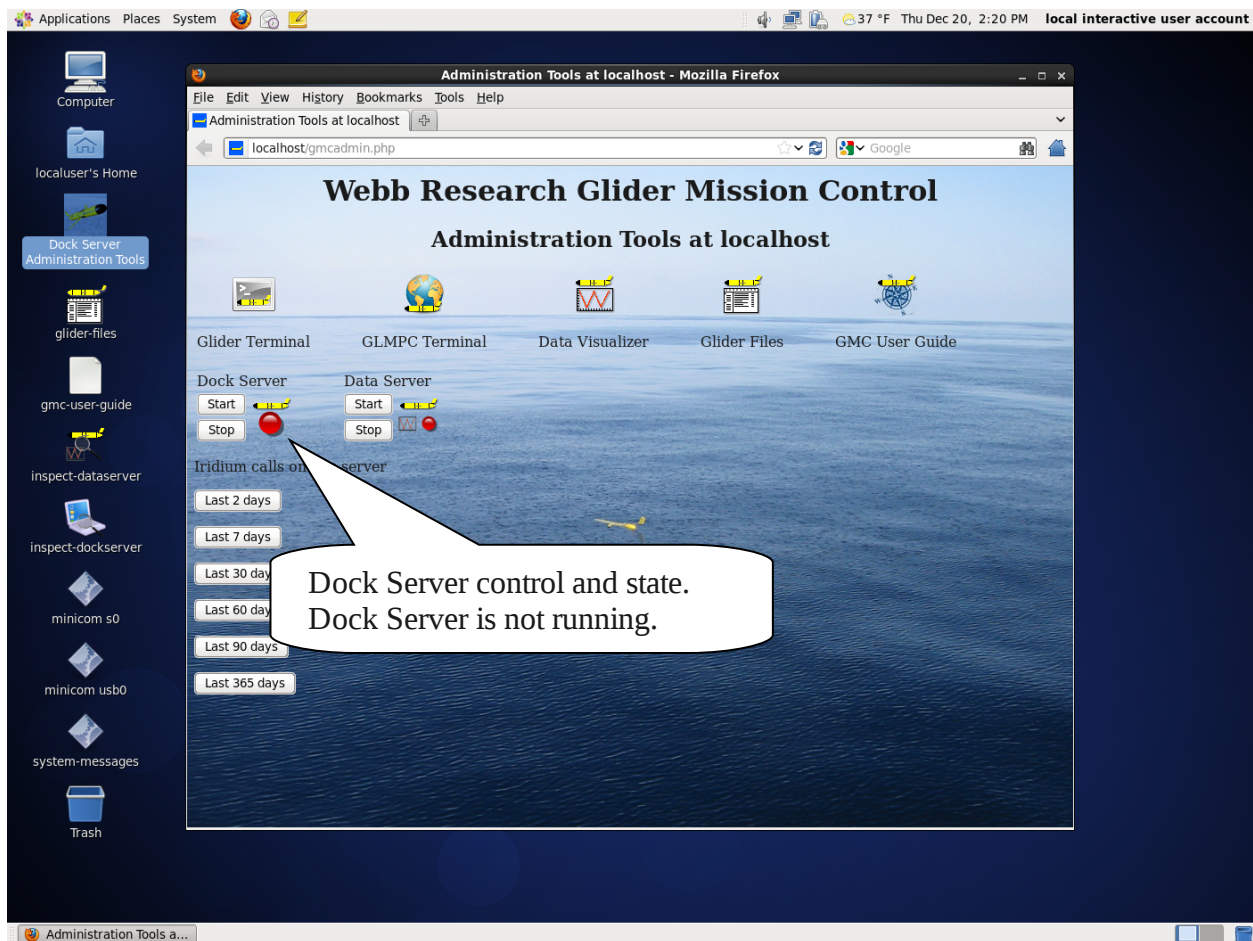

Figure 2-2. Browser window showing Dock Server's administration tools user interface.
A browser window opens that shows the Dock Server administration tools interface (Figure 2-2). Under the “Dock Server” heading, a glider icon above a colored circle shows the Dock Server application state. A red circle means the application is not running; a green circle indicates it is running.
3. To stop Dock Server, click the “Stop” button under the “Dock Server” heading. Once Dock Server stops, the state icon turns red (Figure 2-2).